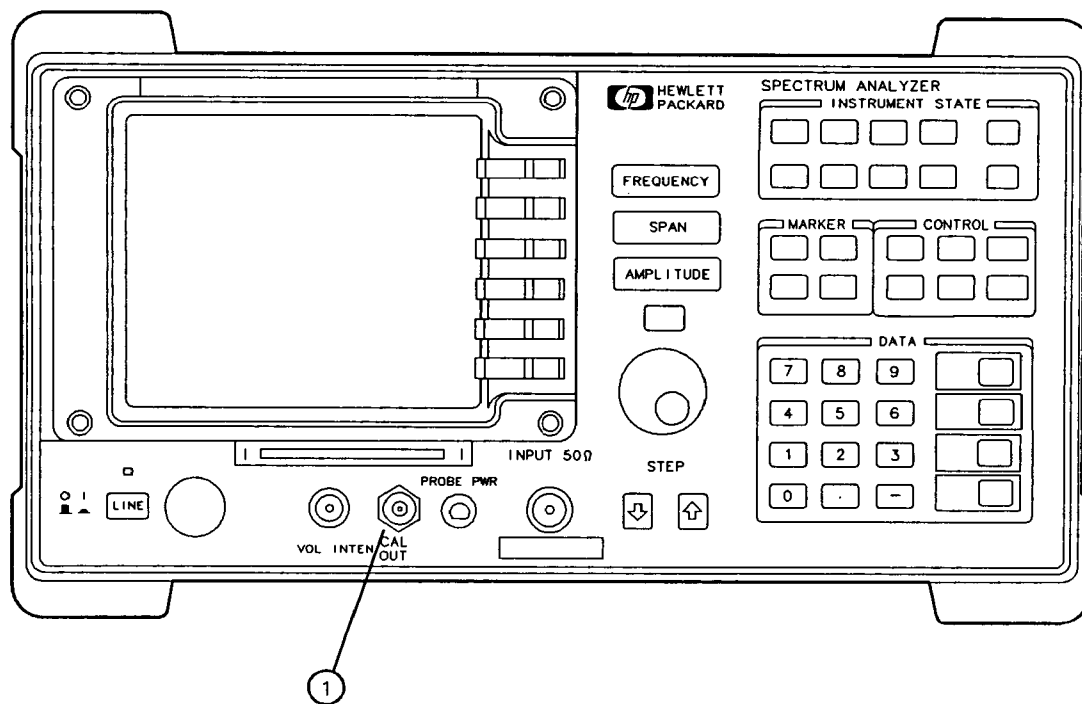

Figure 3-22. Front Panel CAL OUT Connector
26. Use a 9/16-inch nut driver to remove the nut (1) securing the front-panel's CAL OUT cable. See Figure 3-22. (Use caution to avoid damaging the front panel.)